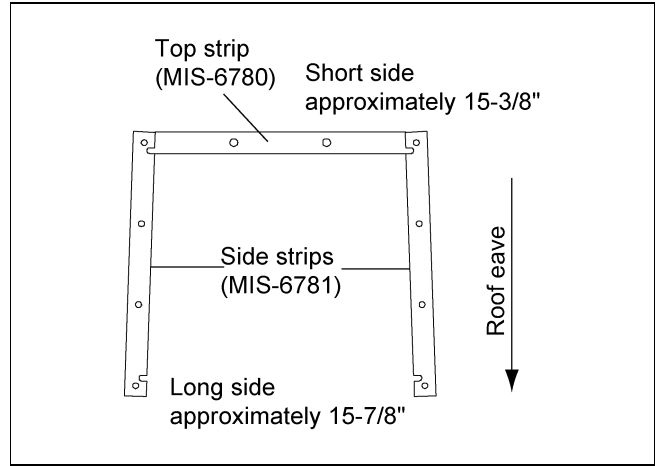

Figure 4
9. Place the three (3) foam strips on roof sheet, as shown in Figure 4. Position roof vent over foam strips and bolt down using 5/16" x 3/4" bin bolts and 5/16" flange nuts. (NOTE: See instructions below for lower two (2) bolts of vent.)